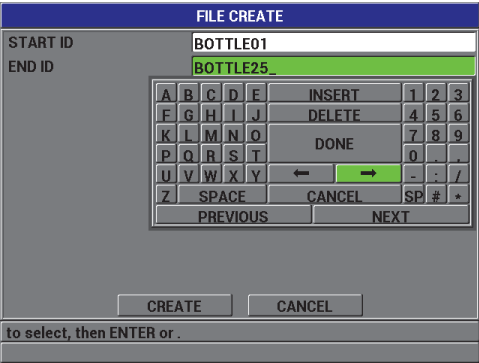

Figure 7-4 Selecting the ID range for the sequential file type
6. In the second page of the **FILE CREATE** screen (see Figure 7-4 on page 118), enter the **START ID** and **END ID** values.